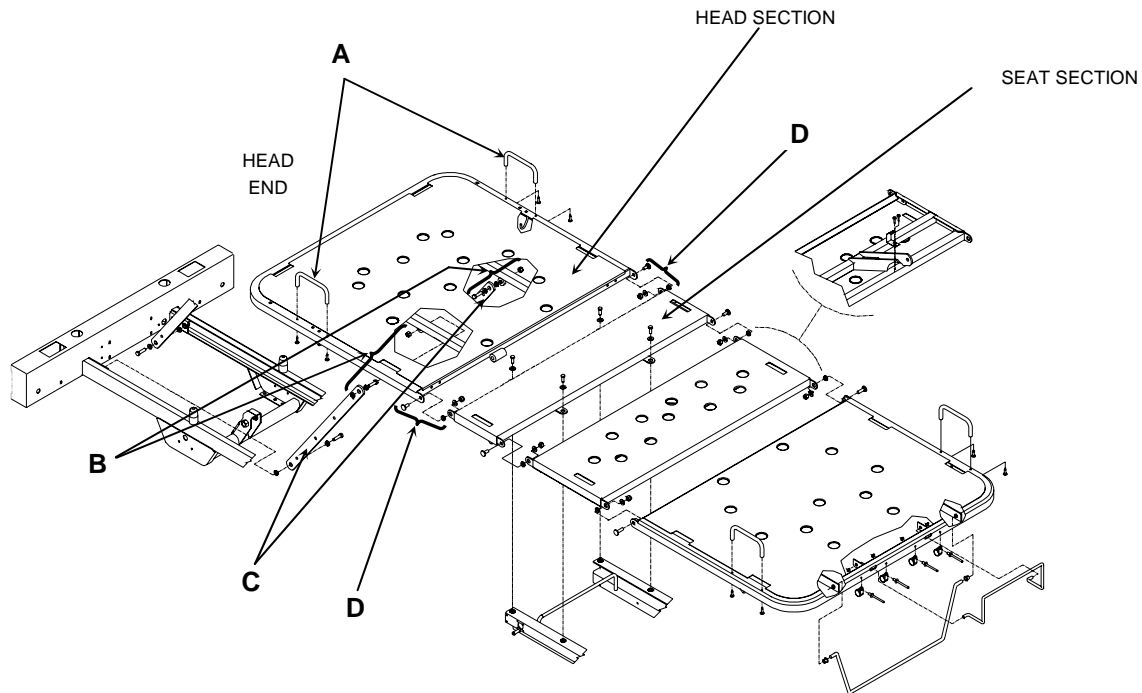

Figure 4.11D
11. Using a 1/2" wrench, remove the two bolts/shoulder spacers(4)/locknuts (**B**, fig. 4.11D, page 33) holding the upper part of the two head arms (**C**, fig. 4.11D, page 33) to the head section. Lay them down.
13. Using a 1/2" wrench, remove the two bolts/shoulder spacers/flat washers/locknuts (**D**, fig. 4.11D, page 33) linking the head section to the seat section. Remove the head section.
6. Using a Phillips screwdriver, remove the two side mattress retainers (**A**, fig. 4.11D, page 33) and save them for the replacement head section.
10. Using a 7/16" wrench, remove the locknut (E) holding the activation rod (F) to the activation lever, disengage the rod and lay it down.
11. Using a 7/16" wrench, remove the four bolts/flat washers/locknuts (G) holding the CPR support (H) to the head section and remove the CPR support.
12. Disconnect the two wires (J) from the micro switch. Note the wire connecting positions.
13. Using a 1/2" wrench, remove the bolt/shoulder spacers(4)/washers(4)/locknut (K) holding the upper part of the small locking lever to the head section and lay the assembly down. Ensure that the head section is securely attached to the bed before disassembling the small locking lever.
14. Using a 1/2" wrench, remove the bolt/shoulder spacers(2)locknut (L) linking the upper part of the mattress support lever to the head section and lay the assembly aside.
15. Using a 1/2" wrench, remove the two bolts/shoulder spacers(4)/locknuts (B, fig. 4.11D, page 33) holding the upper part of the two head arms (C, fig. 4.11D, page 33) to the head section. Lay them down.
17. Using 1/2" wrench, remove the two bolts/shoulder spacers/flat washers/locknuts (D, fig. 4.11D, page 33) linking the head section to the seat section. Remove the head section.